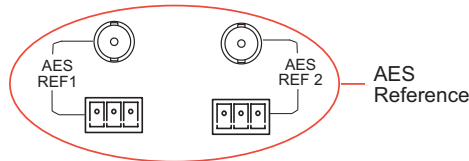

Figure 3-11. AES Reference Connection (Rear View)
- 1 Locate the AES reference connections on the rear of the router, as shown in Figure 3-11. AES reference connections are labeled 'AES REF 1' and 'AES REF 2'.